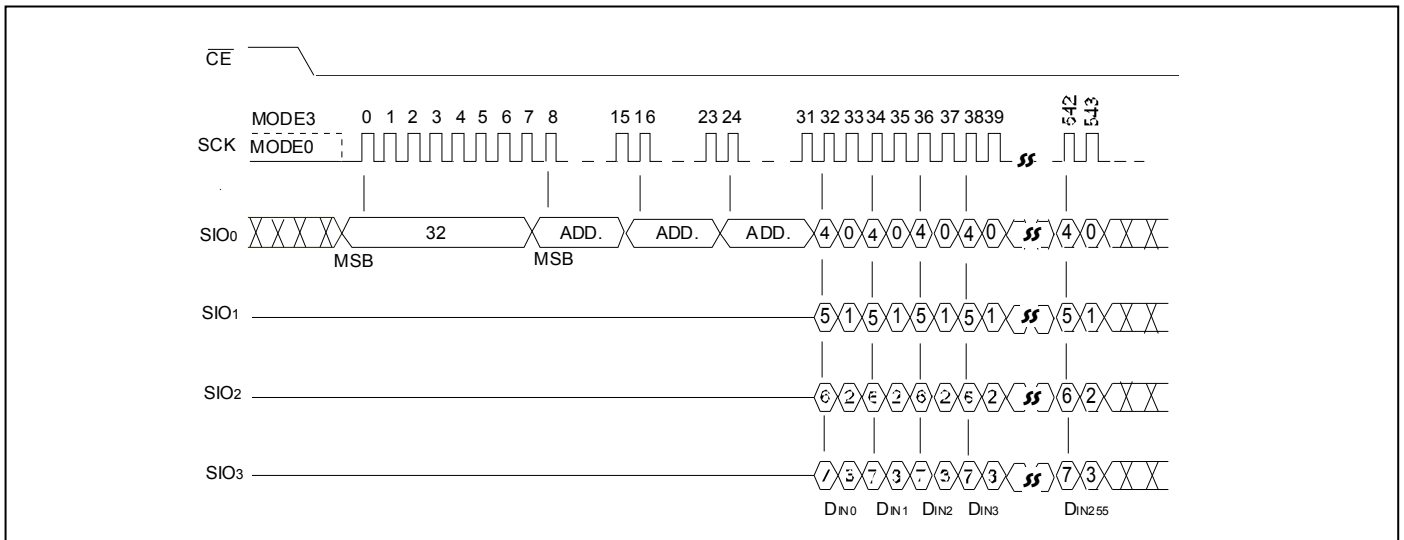

Figure 11: Quad Page Program Sequence
Prior to Quad Page Program operation, the Write Enable (WREN) instruction must be executed and Quad Enable (QE) bit of Status Register-1 must be set "1". The other function descriptions are as same as standard Page Program. See Figure 11 for the Quad Page Program sequence.